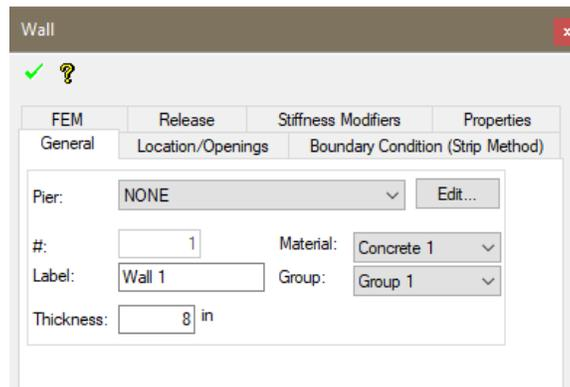

Figure 2-31
- Click on the *Item's Properties* icon  of the *Properties* panel. This will open up the *Wall* properties window as shown in **FIGURE 2-31**.